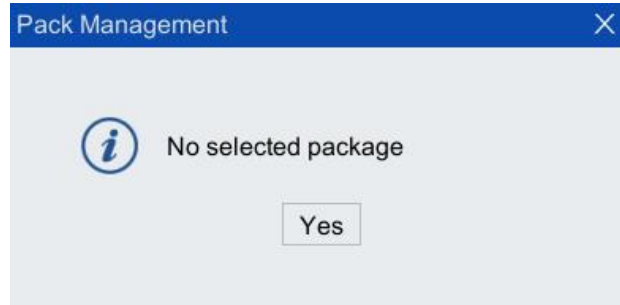

Figure 2-9 Pack Management dialog box
Step3. Select the package to be uninstalled and click the < uninstall > button to pop up the prompt dialog box as shown in Figure 2-9.